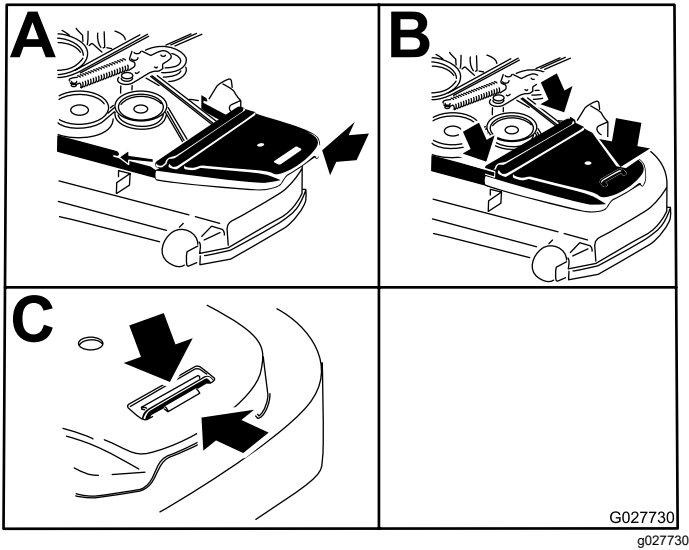

Figure 77
9. Install the belt covers (Figure 77).